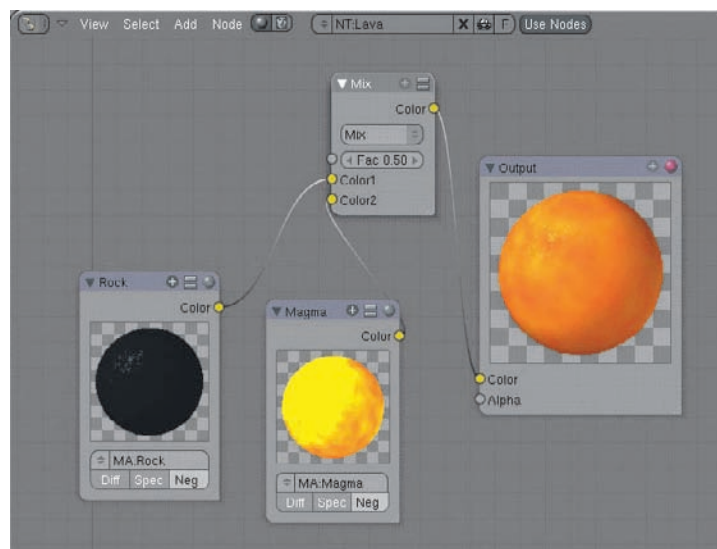

Figure 1.11 Mixing the materials
5. You now have the two basic materials completed in your node setup. What remains is to mix them. To do this, add a Mix node by pressing the spacebar while in the Nodes Editor and choosing Add > Color > Mix. Create connections between nodes by LMB-dragging your mouse from one node's socket to another socket. To mix the two materials, draw a connection between Rock and the Color1 socket on the Mix node, and a connection between Magma and the Color2 socket. Draw a connection between the Color sockets on the Mix node and the Output node, as shown in Figure 1.11. As you can see, the output material is now a mixture of the two input materials. The mix factor of the Mix node is 0.50, which means that the two materials are mixed at a uniform level of 50/50 across the entire object. It is necessary to input a mix factor that will give a more-appropriate mix effect.